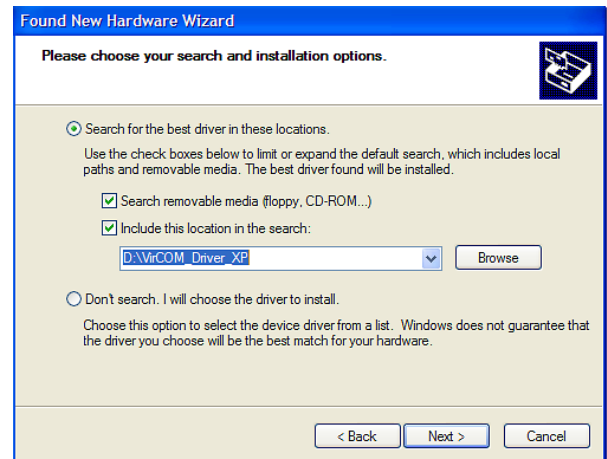

Figure 6. Search for Driver Window
- c. Select **Browse my Computer for Driver Software**. A window similar to that shown in Figure 6 appears.
The window shown in Figure 6 appears.